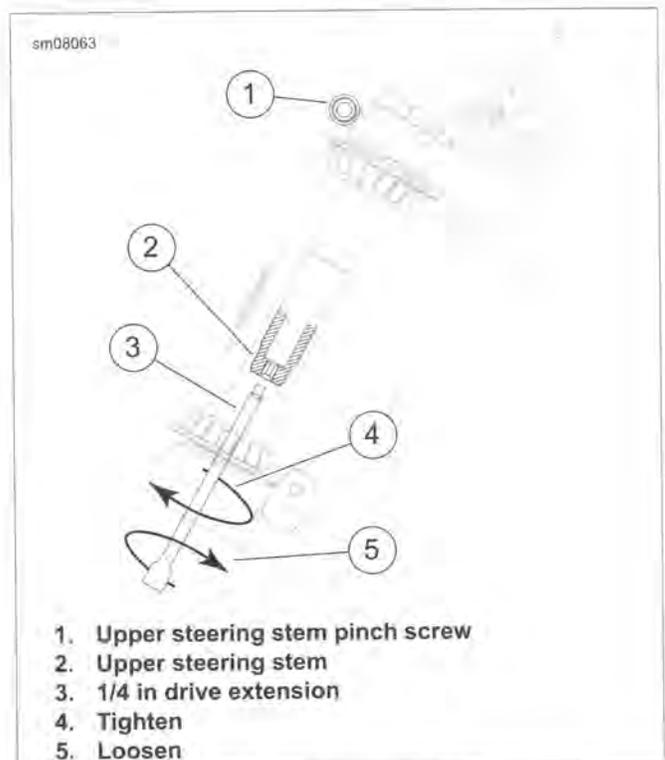

Figure 1-40. Adjust Steering Stem Bearings
- See Figure 1-40. Loosen upper steering stem pinch screw (1).